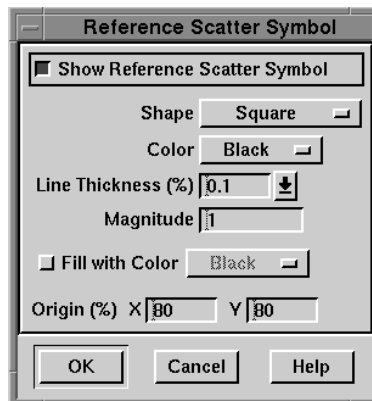

Figure 13-7. The Reference Scatter Symbol dialog.
1. Choose Reference Scatter Symbol from the Scatter sub-menu of the Field menu. The Reference Scatter Symbol dialog appears, as shown in Figure 13-7.